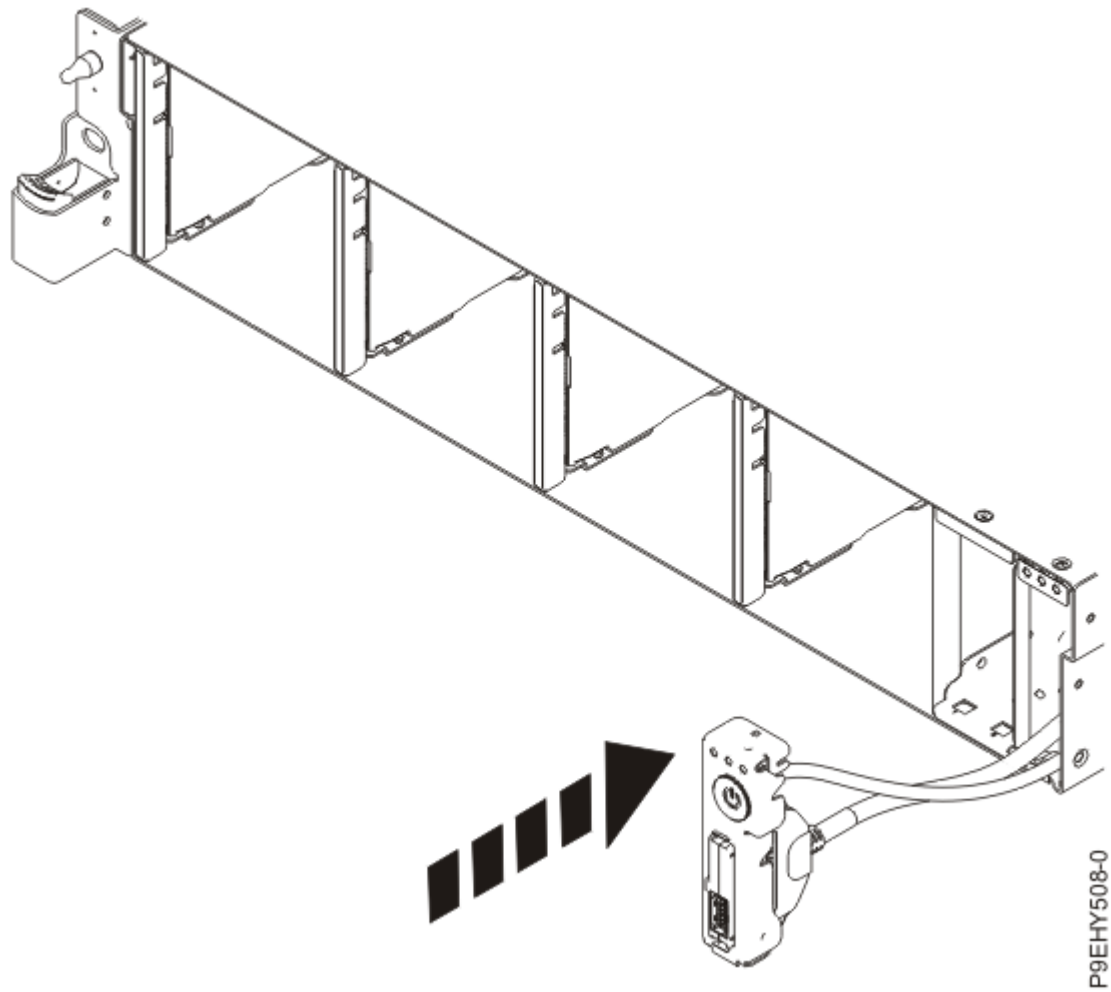

Figure 109. Replacing the front USB cable into the system backplane
4. Insert the USB cable and the power switch and cable into the system as shown in Figure 109 on page 122. Be careful to route the cables through to the system backplane.